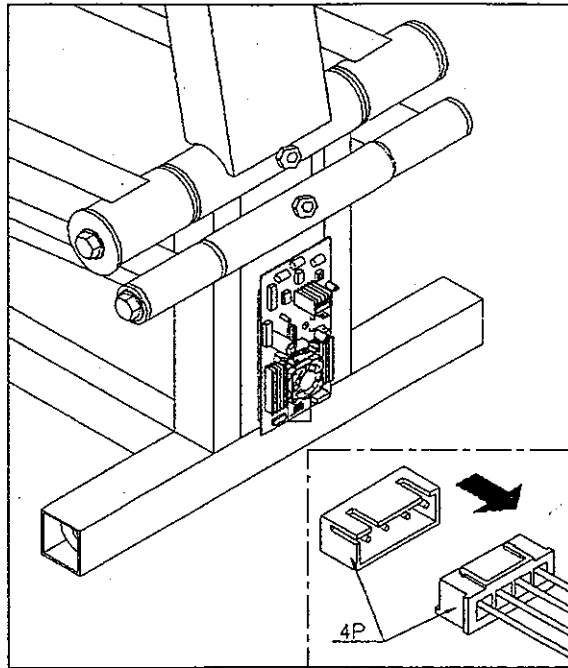

Fig. 8
7. Unplug the 4 pin connector on the drive board (see Fig. 8).